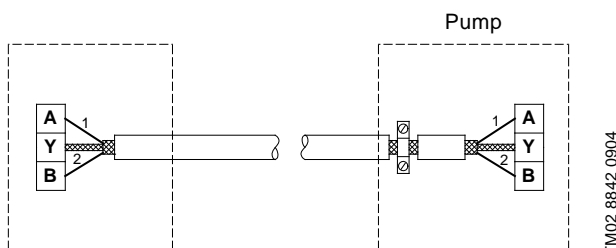

Fig. 15 Connection with screened 2-core cable
- If a screened 2-core cable is used in the existing installation, connect it as shown in fig. 15.